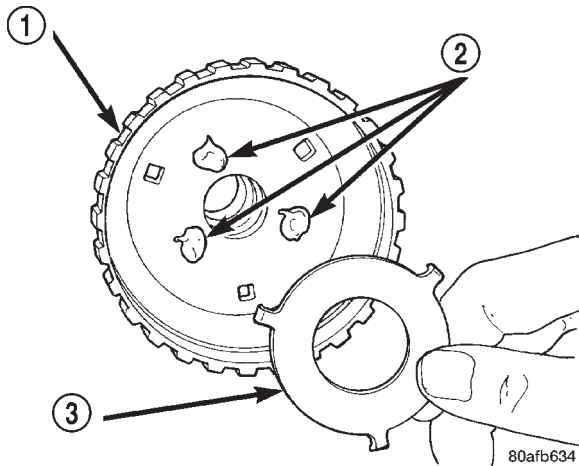

Fig. 288 Install No. 3 Thrust Plate
(40) Install the #3 thrust plate to the bottom of the overdrive shaft assembly. Retain with petrolatum or transmission assembly gel (Fig. 288).